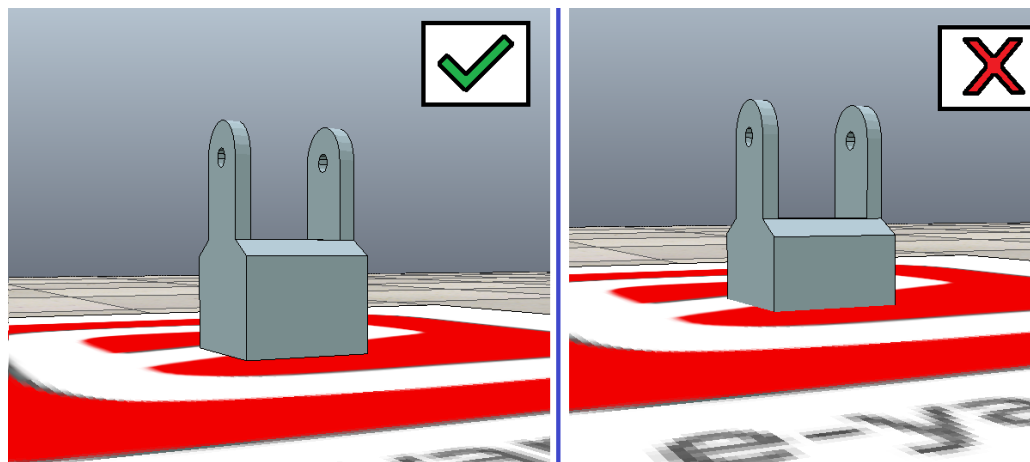

Figure 1: Overlapping of objects is **NOT** allowed.
- As shown in Figure 1, it is **NOT** allowed to position objects such that they are into each other.